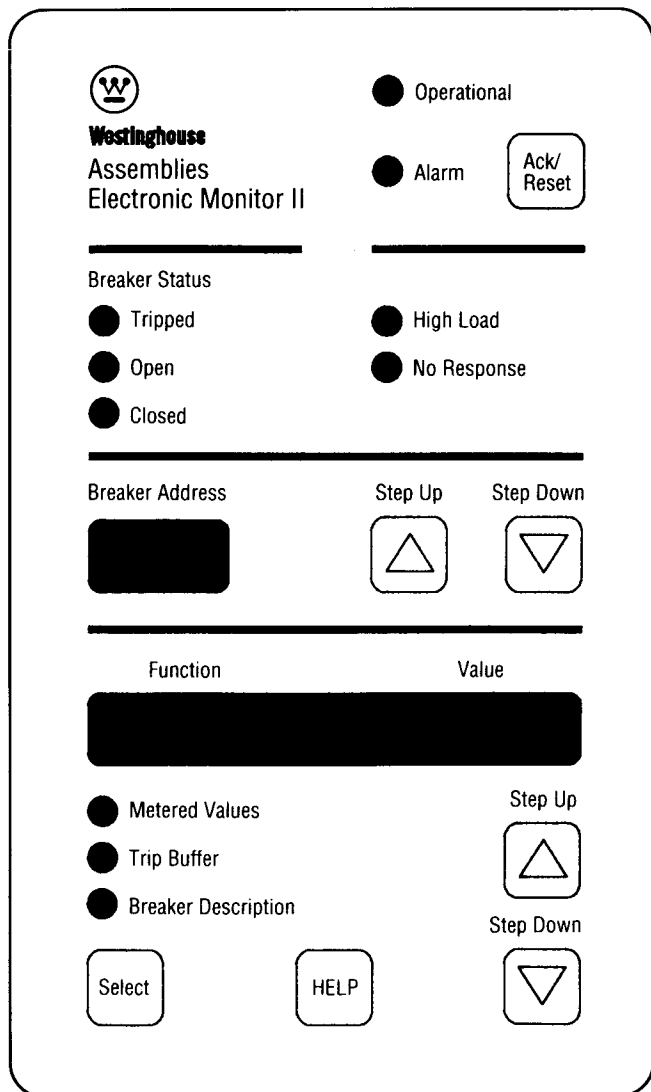

Figure 4.1 — Operator Panel
4.1 Pushbuttons — The operator panel supports seven pushbuttons (see Figure 4.1) that perform the following functions: